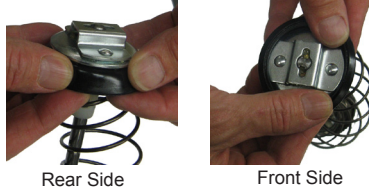

Figure 5
2. Visually check the follower seal lip direction before loading a new cartridge. The follower seal lip must be directed toward the follower handle or rear side for cartridge loading. See Fig. 5. (To change the direction of the follower seal, unscrew tube cap from grease tube assembly and pull on the handle to remove follower seal from tube. Flip follower seal over and reassemble.)